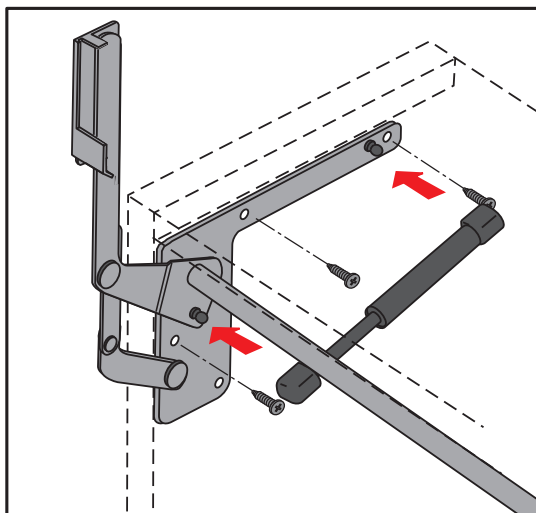

Fig.2
- spread the arms of the pane support bracket (see figure 2)
- on both sides mark the position of the three screws fastening the pane support bracket in appropriate places (see figure 2),
- remove the bracket from the furniture alcove and drill holes facilitating the installation of the screws 3,9 x 13 (3 pieces) in the previously marked places, - place the support bracket again into the furniture alcove and affix it using the three 3,9 x 13 screws (see figure 2),